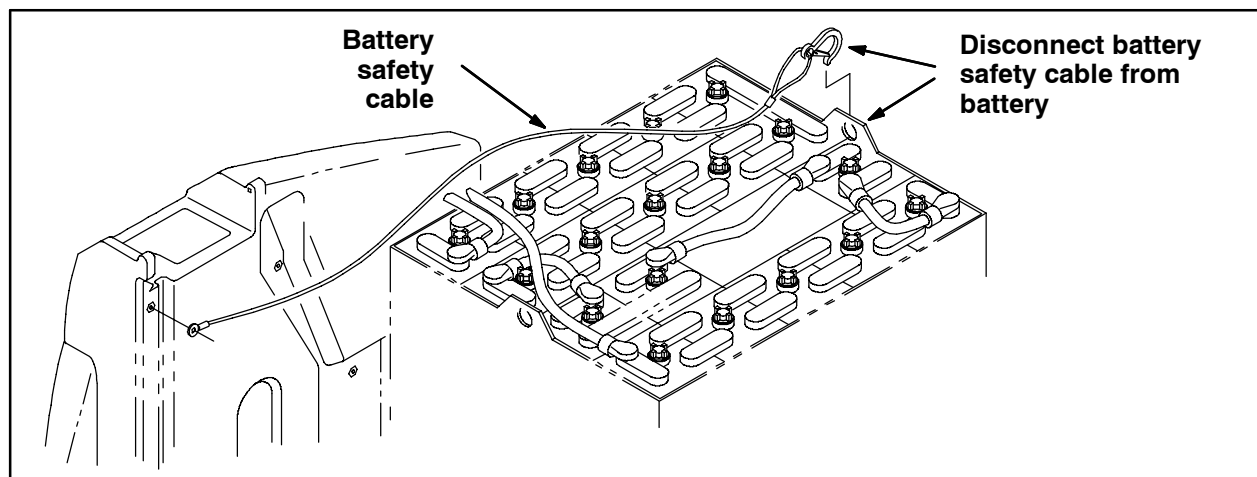

FIG. 1
6. Disconnect the battery safety cable from the battery. Refer to Fig. 1.